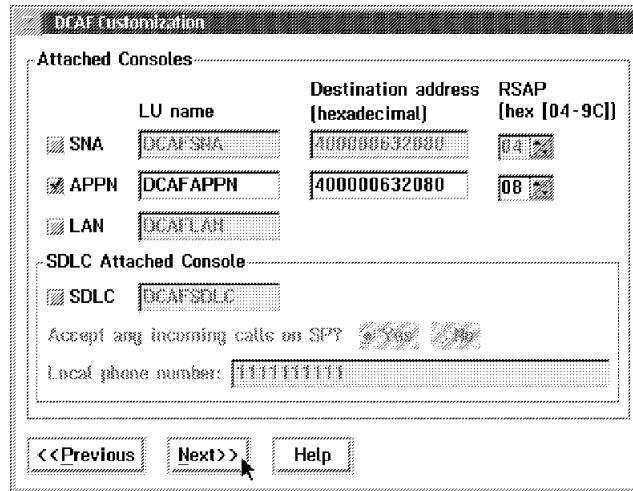

Figure 10-2. DCAF Customization
APPN LU name (Figure 10-2 on page 10-3)	LU name (Step 9 on page 10-6)
APPN Destination address (Figure 10-2 on page 10-3)	LAN Destination address (Step 9 on page 10-6)
RSAP (Figure 10-2 on page 10-3)	Remote SAP (Step 9 on page 10-6)
- b. Second field matches the **APPN LU name** in Figure 10-2 on page 10-3.